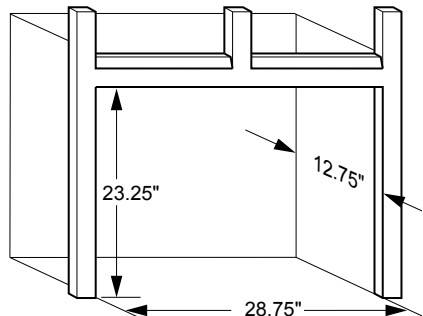
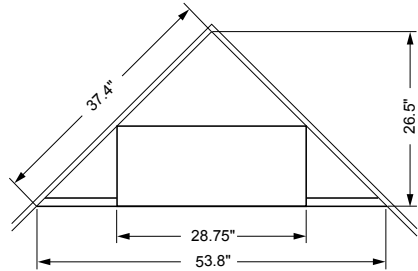

Figure 9 - Rough Opening for Wall Installation
Figure 10 - Rough Opening for Corner Installation
1. Frame in rough opening. Use dimensions shown in Figure 9 for the rough opening. If installing in a corner, use dimensions shown in Figure 10 (page 13) for the rough opening. The height is 26 1/2", which is the same as the wall opening above.